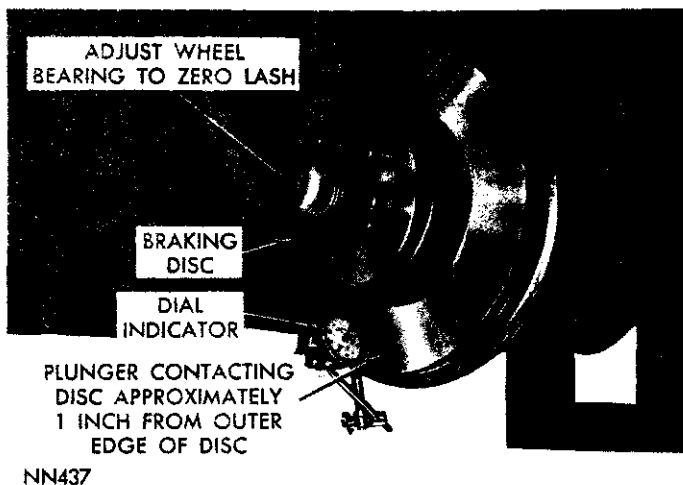

Fig. 15—Checking Braking Disc Run-out
Before installing the caliper assembly over the brake disc, check the disc for runout and thickness variation. Mount a dial indicator (Fig. 15) and check the lateral runout. Runout should not exceed .0025 inch. If runout exceeds the specified figure, remove the disc and install a new one. (Be sure the wheel bearings are adjusted to zero lash during this check.) Readjust wheel bearings after check.
(1) Slide brake disc and hub assembly on spindle.
(2) Install outer bearing, thrust washer, and nut.
(3) Tighten wheel bearing adjusting nut to 90 inch-pounds while rotating hub and disc.
(4) Position lock nut on nut with one pair of slots in line with cotter pin hole.
(5) Back off adjusting nut and lock assembly on slot then install cotter pin. The resulting adjustment should be zero (no preload) end play. (This is very important, when checking disc runout.)
(6) Install a dial indicator C-3339 (Fig. 15) and